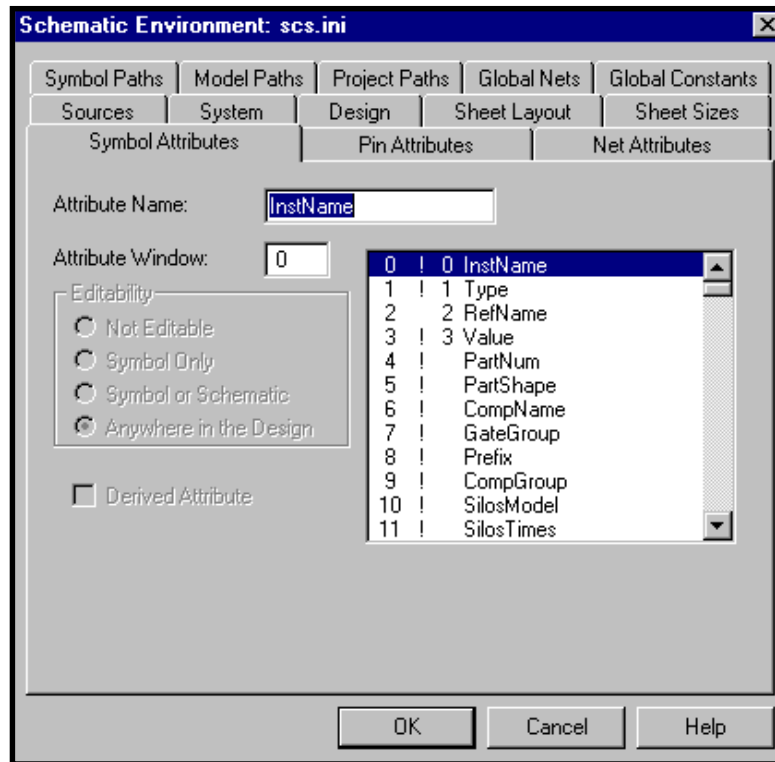

Figure 8-1. Symbol Attributes Window
2. Select the type of the attribute you want to create: Symbol, Pin, Net, or Global, then click on the tabs of Symbol Attributes, Pin Attributes, Net Attributes, or Global Constants. A window is displayed. (The Symbol Attributes window in the Schematic Environment dialog box is shown in Figure 8-1.)